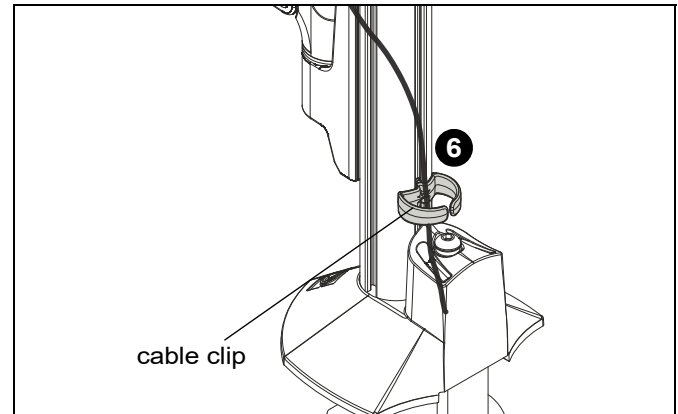

Figure 21
6. **(OPTIONAL)** Route through cable clip on column. (See Figure 21)